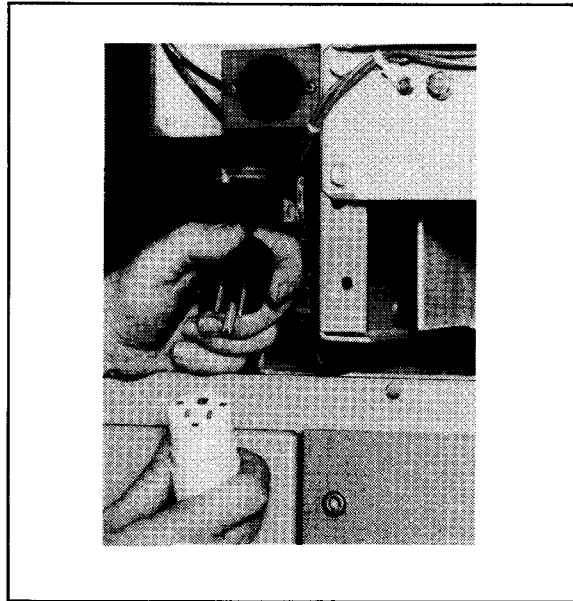

Figure 3.7 – Ampgard Internal View
- When the Ampgard isolating switch and the high-voltage door are open, the step-down control transformer is accessible. Remove the plug from the receptacle to disable the secondary circuit, as shown in Figure 3.7.
- Temporarily plug the control power receptacle, as shown in Figure 3.7, into a 120 VAC extension cord receptacle. Using a meter, check polarity and verify that 120 VAC ($\pm 15\%$) is present.